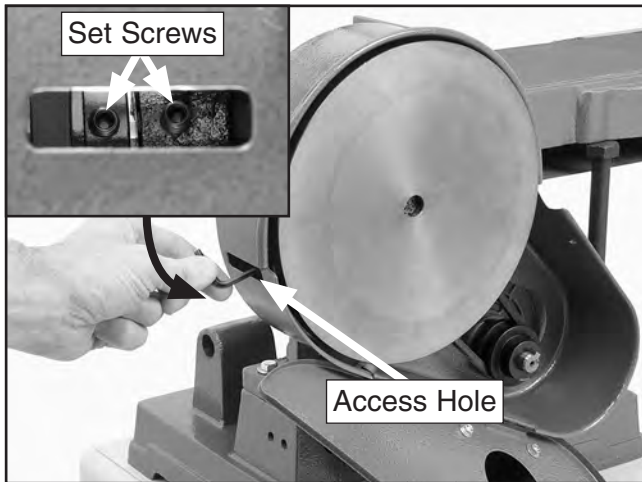

Figure 29. Securing plate to drive shaft.
7. While looking through the access hole on the side of the cover, rotate the plate and tighten each of the set screws to secure the plate to the drive shaft (see **Figure 29**).